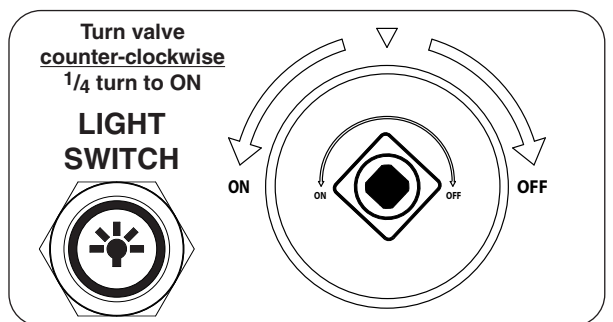

Fig. 45-2 ON/OFF key valve detail
2. Turn the ON/OFF key valve counter-clockwise a 1/4 turn to the **ON** position (Fig. 45-2).
1. Push light switch in to turn on the lights. The light switch will light up when on. See Fig. 45-2.